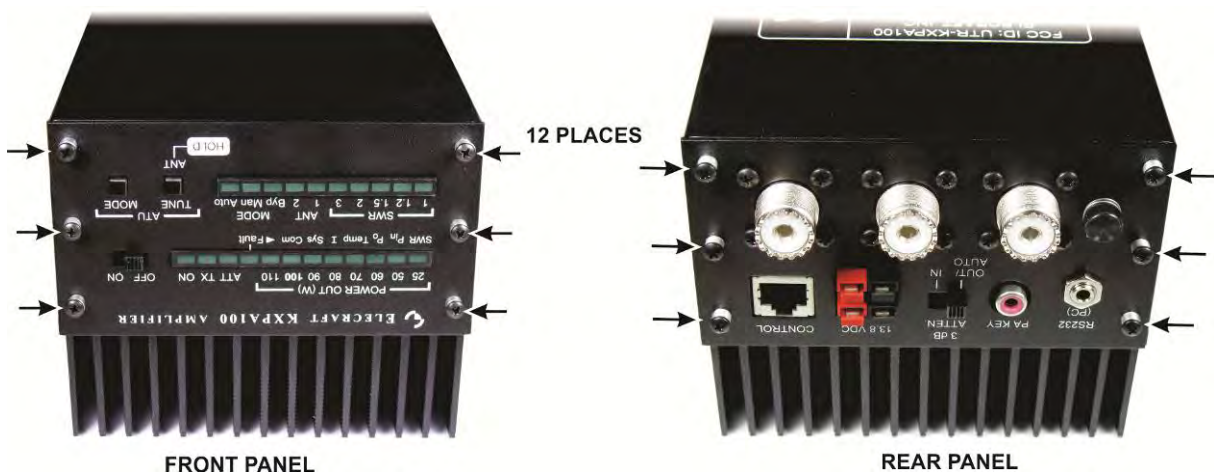
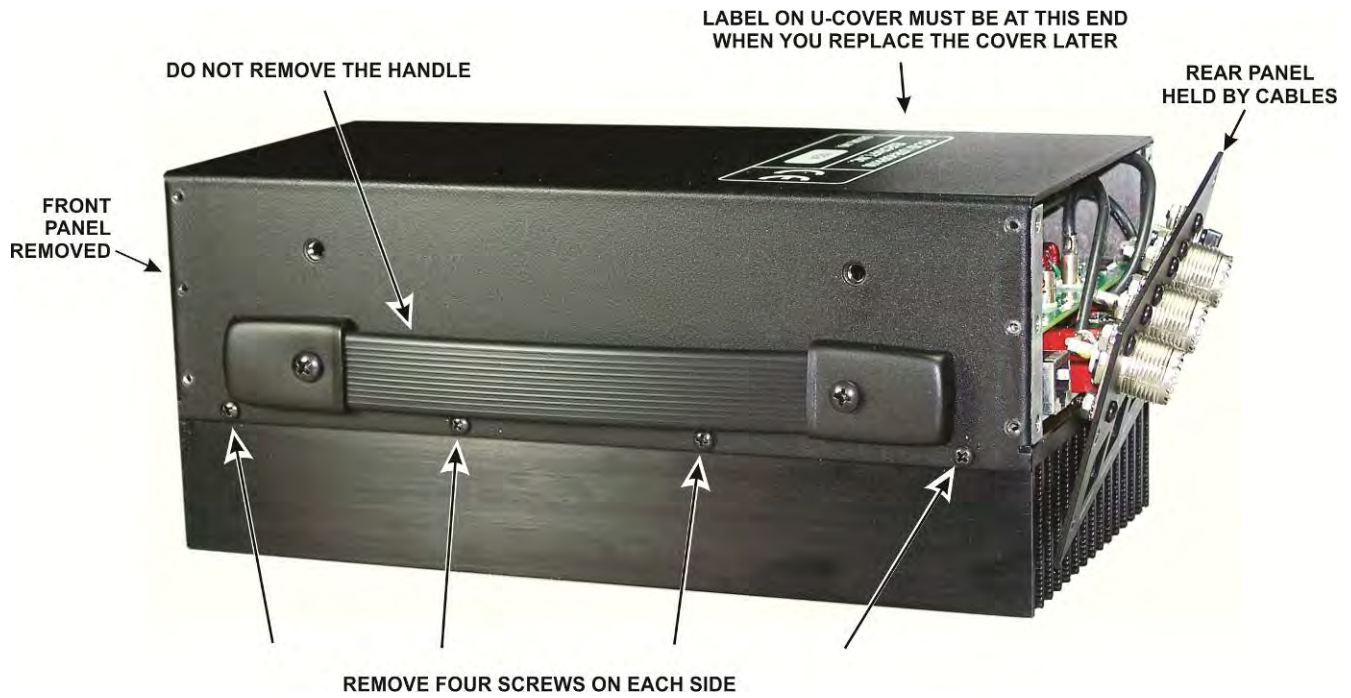

Figure 18. Freeing the Front and Rear Panels.
Figure 19. Removing the Bottom Cover
Remove the six screws, lock washers and spacers to free from the front and rear panels as shown in Figure 18. That will free the front panel. Set it aside in a safe place. The rear panel will be held in place by the wires and cables to the connectors as shown in Figure 19. Do not try to remove it. Let it hang by the wires.
□ Remove the four screws from each side of the bottom U-cover as shown in Figure 19 and lift it straight up off of the KXPA100.
When replacing the bottom U-cover in the next step, be sure it is oriented with the lettering toward the rear panel as shown in Figure 19. Reversing the orientation will cause the threaded bushings for the handle to strike the circuit boards.
- After the ALC adjustment is completed, replace the bottom U-cover so the end with the label nearest the rear panel (the correct orientation is shown in Figure 19).
- Secure the bottom cover with eight screws, four on each side as shown in Figure 19. Do not use lock washers under these screws.